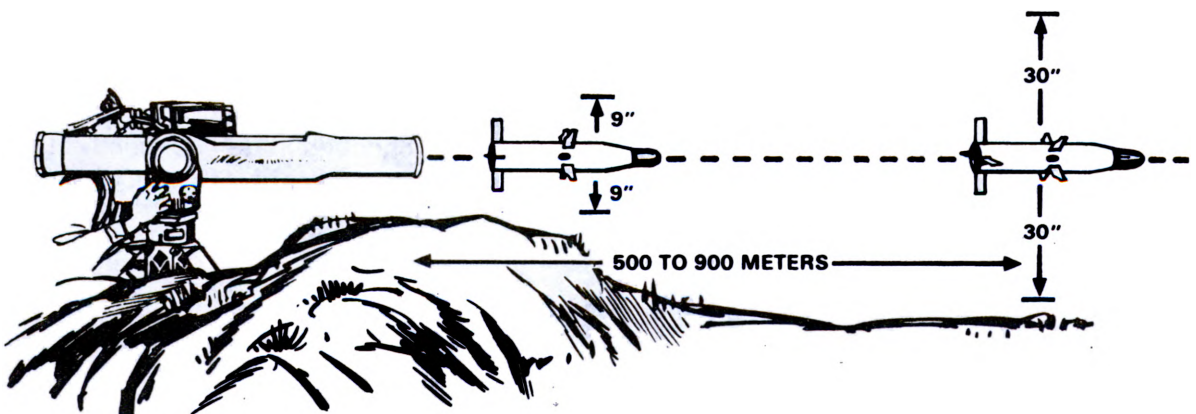

Figure 3. Clearance requirements.
7. Clearance Requirements (fig. 3).